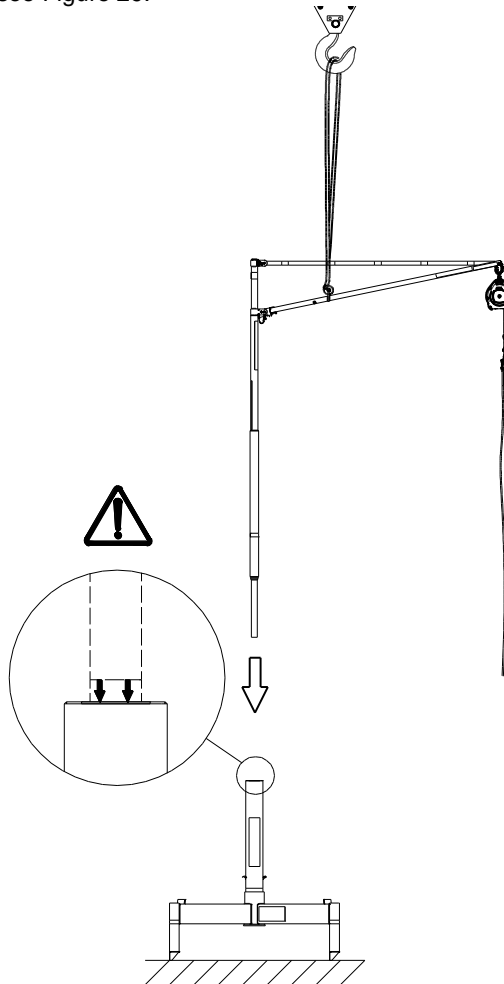

Figure 29. Placement of the SKYREACH unit into TOP COLUMN while TOP FRAME still standing on the ground. Beware of the crane and its movement to avoid injuries.
- Use a crane to lift the assembled SKYREACH by placing the crane hook to the sling which is attached to the SKYREACH. Lower it down into the TOP COLUMN/LOADING SYSTEM ADAPTER while the TOP FRAME is still standing on the ground, see Figure 29. Use the HOOK to guide the SKYREACH into place if needed. Make sure that the SKYREACH is inserted the correct length, please observe the Insertion Marking Label position, see Figure 29.